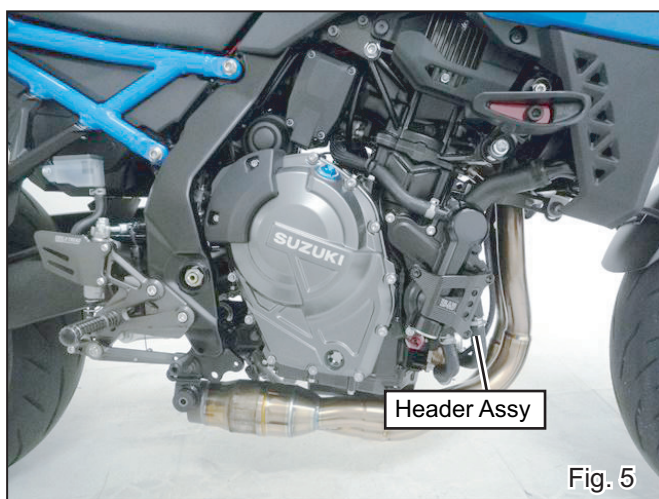

Fig. 5
- 5) Change exhaust gaskets in exhaust port with new ones. Then, install Header Assy into the exhaust port of the engine using stock bolts (See Fig. 5, 6 on next page). Tighten bolt only by hand at this stage.